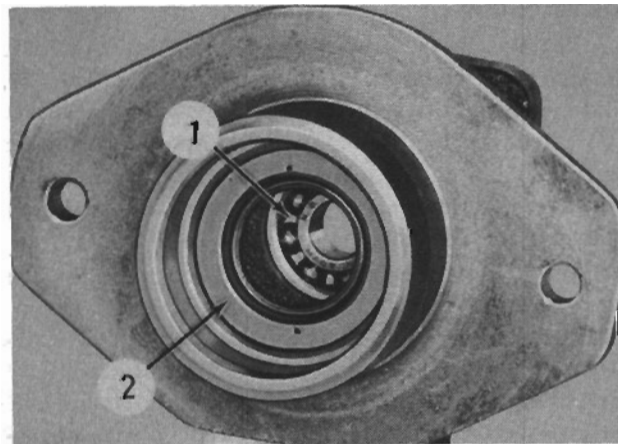

FIG. 89
Inspect the inner bearing (1, Fig. 89) and seal (2) in the pump body. If necessary to replace the seal or inner bearing, use a punch to drive the seal and bearing out of the pump body. The seal must be removed before the bearing can be removed. Be careful when removing the seal or bearing not to damage the face of the body which mates with the cam ring when the pump is assembled. To install the inner bear-